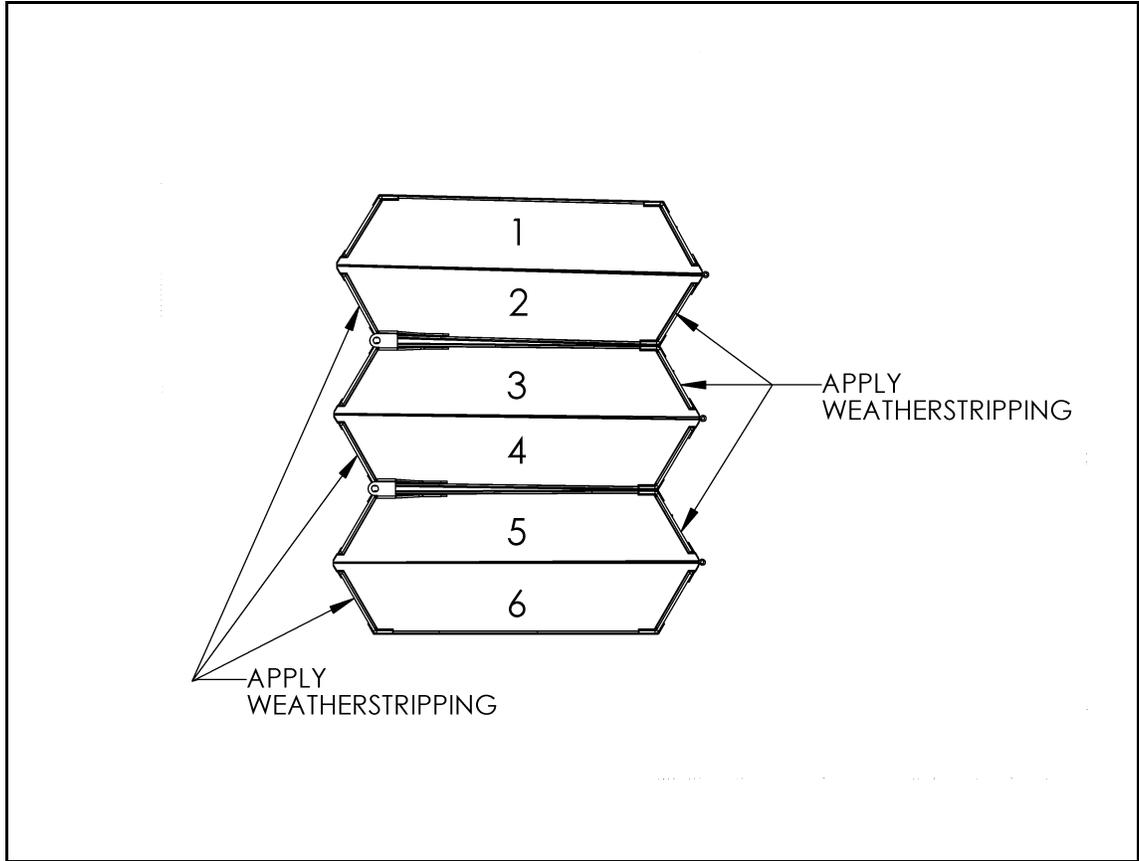

Figure 3.7
5. Cut the weather stripping provided by the manufacturer to length and place onto all edges as indicated in Figure 3.7 and 3.8.